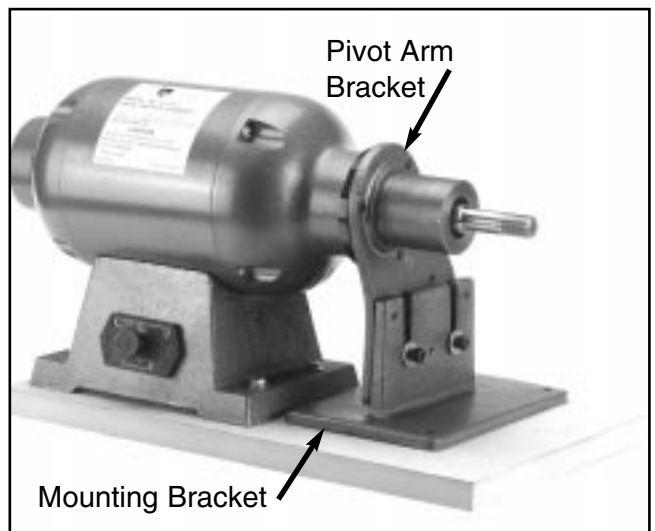

Figure 6. Bracket assembly attachment.
2. Back off the two setscrews at the bottom of the pivot arm and remove it from the pivot arm bracket. This is a tight fit and it may require moving the arm back and forth to get it to come off of the bushing. Assemble the pivot arm bracket to the mounting bracket as shown in **Figure 6.** Align the open ended slots with the three (3) $\frac{5}{16}$ " - 18 x 1" cap screws which are already threaded into place on the two brackets. Leave these cap screws loose for now. If there are setscrews installed on the two brackets, these may be removed, they are no longer used for the current method of assembly.